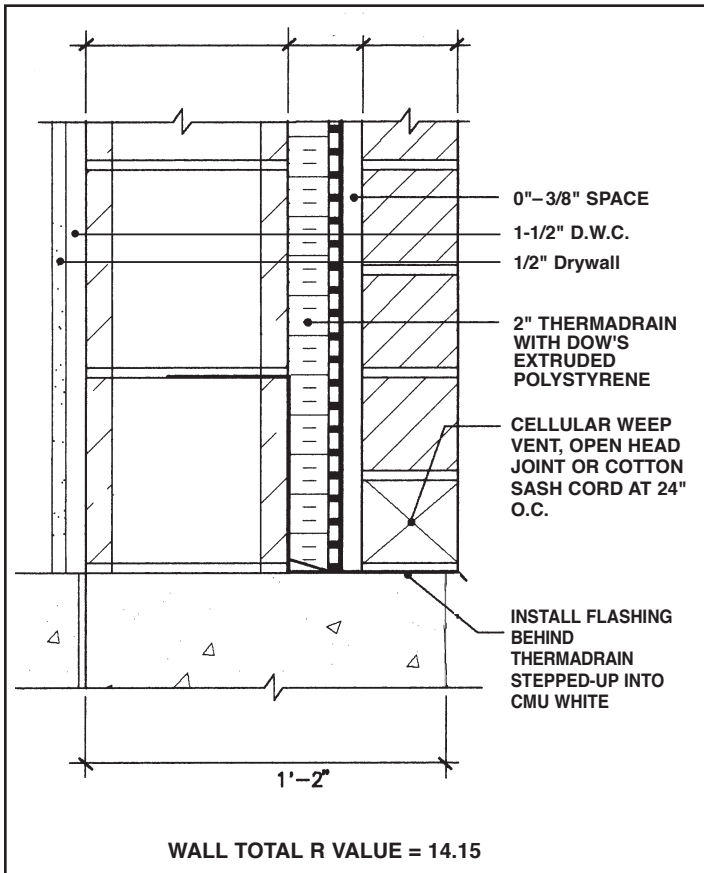
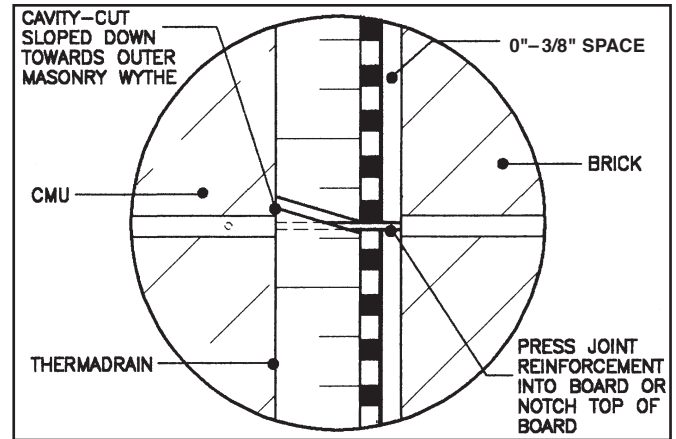

Figure 5 Typical *ThermaDrain*® wall section
Figure 6 *ThermaDrain*'s® cavity-cut ends form sloped joints
2. Set the board tightly against the concrete masonry back-up with the top of the board sloped down towards the outer wythe of masonry (see fig. 6). The drainage mat must face the wall exterior. All mortar droppings must be removed from the face of the concrete masonry to ensure direct and flush contact between *ThermaDrain*® and the backup wythe. Provide a 3/8" space between the outerface of *ThermaDrain*® and the inner face of the exterior wythe of masonry for tolerances and space for adjustable eyes, if used. (fig. 5).
3. Install adjacent sections of *ThermaDrain*® board by tightly butting both vertical and horizontal ends together. At vertical joint locations the boards must be positioned properly (as previously indicated) with the top of the board sloped down toward the exterior wythe of masonry (fig. 6).